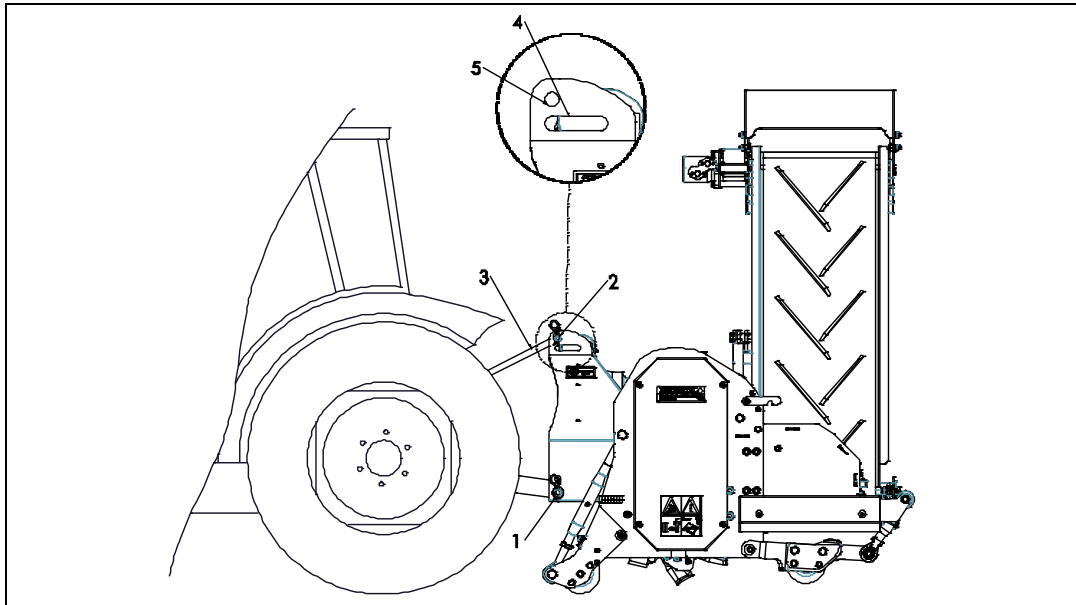

Figure 9
The procedure is as follows: (Figure 9)
**Make sure that the uppermost top rod is attached and is pressurized in the transport position (position 5)! See Chapter 4.0, figure 9.**
6. If required, the top rod can be placed in the slotted hole (4) in the land-tracking position (see Chapter 4.0, figure 9).